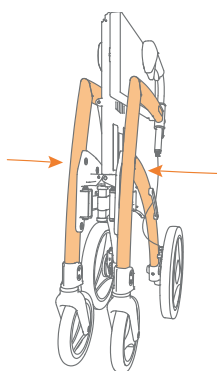

Figure 20: Push the frame further inside.
- Push the sides of the frame towards each other until the rollator is completely folded (**Figure 20**).